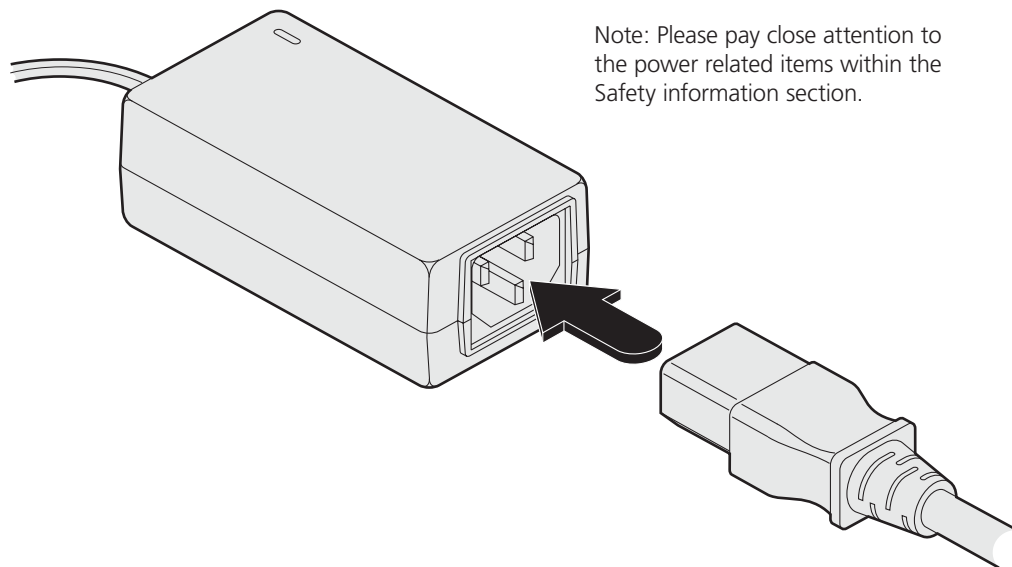

Figure 3-14. Connecting the power cord to the adapter
- 2 Insert the IEC connector of the separate power cord into the corresponding socket of the power adapter as shown in Figure 3-14: